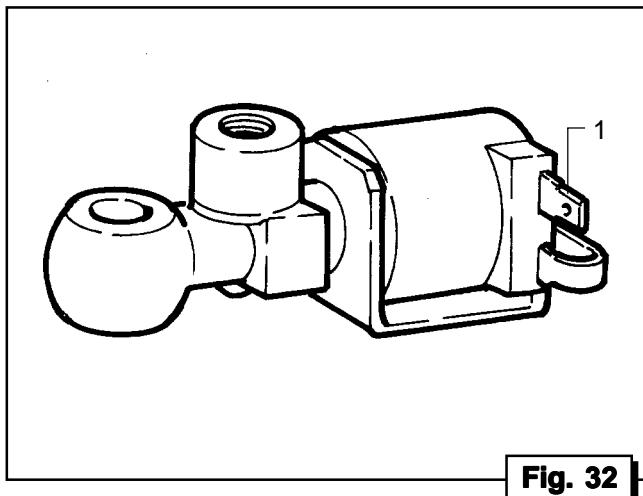

Fig. 32
- Scollegare il fast-on (Fig. 32, Rif. 1)
- Disconnect the fast-on terminal (Fig. 32, Ref. 1)